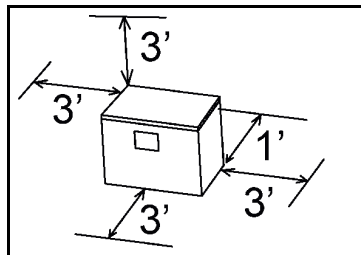

Figure 4. Compressor Unit Clearance
- Clearance around the unit for service is illustrated in Figure 4. However, local codes and applicable regulations take precedence.
- If the compressor unit or other refrigerant-containing system components are located indoors, they shall be in a location which (1) is an *unoccupied space*, or (2) is served by the circulating air system, or (3) provides 280 cu. ft. of open space per nominal ton of rated system capacity. The **2012 International Mechanical Code** defines residential occupancy as including permanent provisions for living, sleeping, eating, cooking, and sanitation. Consult local code authorities to define *unoccupied space* for the specific installation.